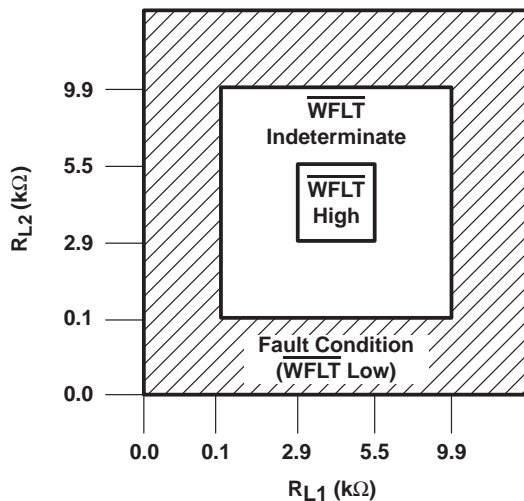

Figure 6. Wire-Fault Pin Test
- NOTES: 8. The wire-fault logic recognizes a load condition corresponding to greater than 9.9 kΩ to ground as an open-circuit fault, but it does not recognize a load condition less than 5.5 kΩ to ground as an open. The wire-fault logic recognizes a load condition corresponding to less than 100 Ω to ground as a short-circuit fault, but it does not recognize a load condition corresponding to greater than 2.9 kΩ to ground as a short. Figure 6 illustrates this with R_{L1} connected from PHOUTA to ground and R_{L2} connected from PHOUTB to ground.